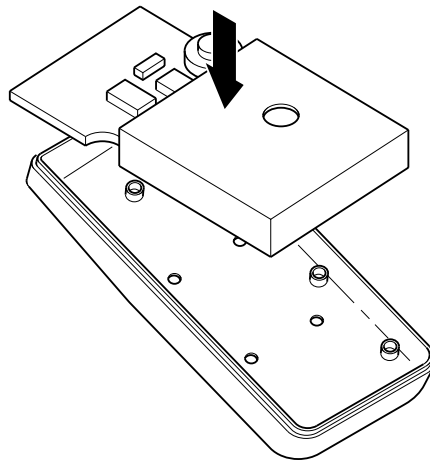

Figure 21: handset reinstallation
- Figure 21 Reinstall the handset into the case. 3 screws